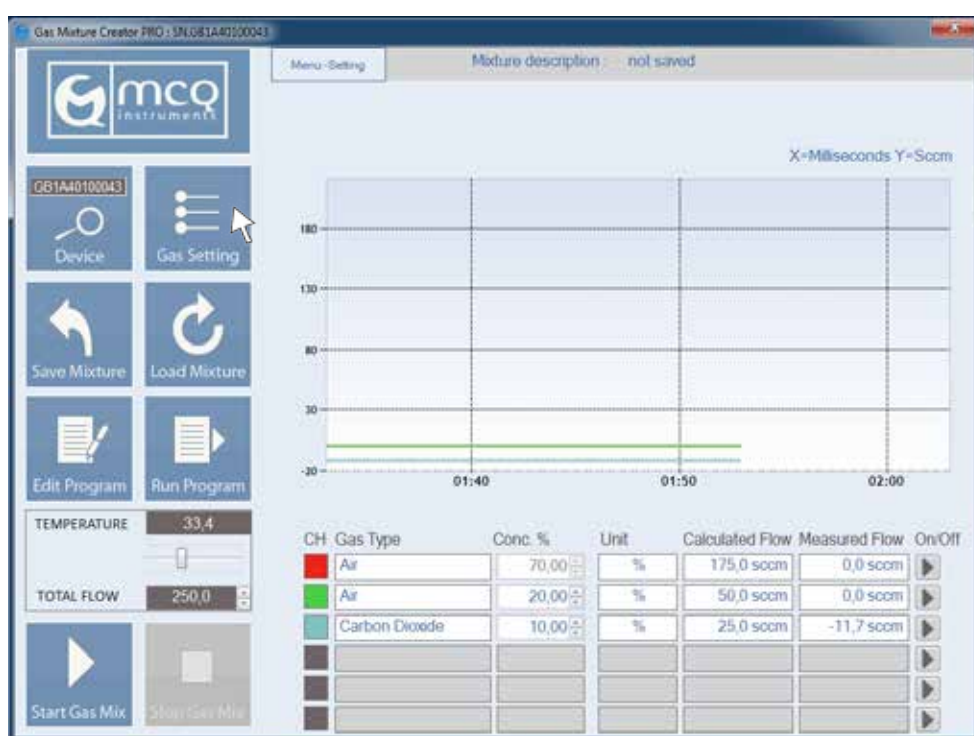

Fig. 18
4. Click in the **Gas Settings** icon to access the Gas Mixture Creator Setup Panel. (Fig. 18) Once in the panel you can choose between three different sections for the management of the instrument gas sources: **Channels** and **Gas Settings**, **Gas Properties Table** and **Custom Cylinder**.